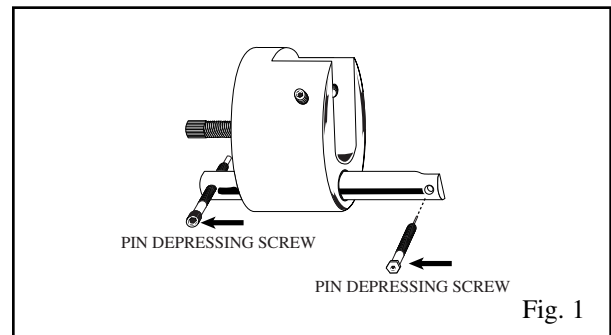

Fig. 1
1. Choose the proper size Pin Depressing Screw and determine which end of the Slide Post will allow easiest access to the lever lock handle retaining-pin and assemble as shown (see fig. 1).